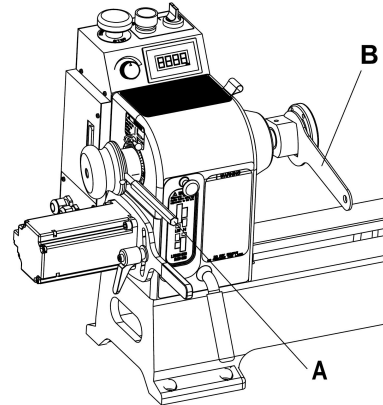

Figure 7
9.10. Using the Face Plate(Figure 7)